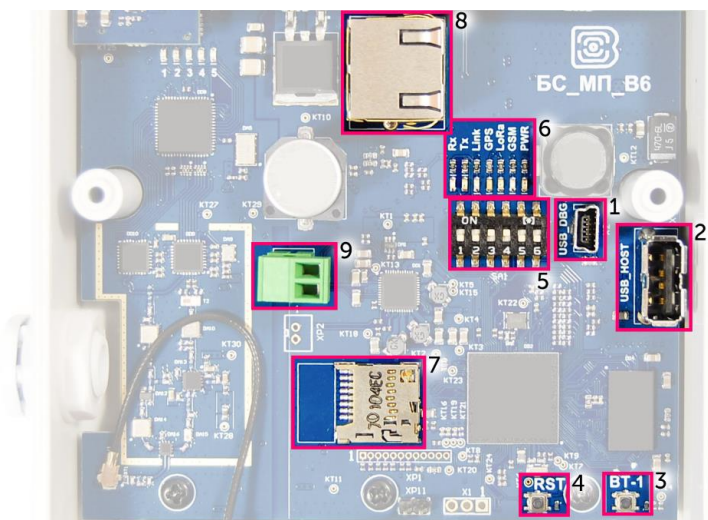
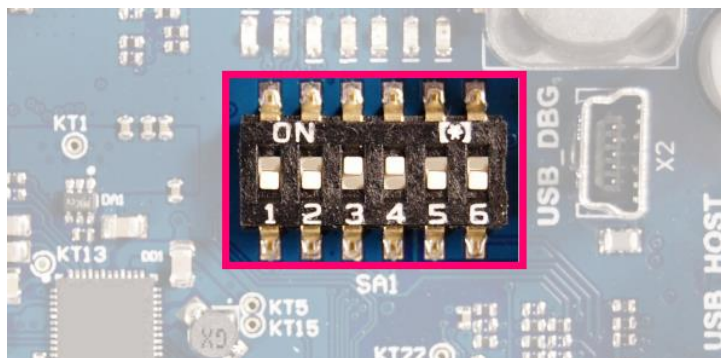

Fig. 3.1. Control and indication instruments, input and output interfaces.
Fig. 3.3. Operating position of DIP-switches
The gateway is connected to the network with 8-core network cable (twisted pair) through connector on the terminal board (fig. 3.1 (8)). Cable shall be crimped in compliance with T568A and T568B standards. Contacts shall be numerated 1-8 right-to-left.
There is an additional power connector on the board (fig. 3.1 (9)). It can be connected only when power contacts 4, 5 and 7, 8 in the network cable are disabled. Permissible power voltage is 12-48 V. Minimum power is 20 W.
The gateway has a mini-USB-port for connecting to a computer and working via the SSH protocol (Fig. 3.1 (1)), and a USB-host for connecting of external devices via a USB cable (Fig. 3.1 (2)). There is a slot on the board for a SD card (fig. 3.1 (7)).
There are two buttons on the gateway board. One button is spare for further developments (Fig. 3.1 (3)). Push the other button (Fig. 3.1 (4)) for the gateway instantaneous rebooting.
In addition, there are DIP switches (Fig. 3.1 (5)) on the board used to select the download option of the firmware image: from internal memory, from the SD card or via mini-USB from the computer. The switches are used only in service conditions. In operating mode, only switches 3 and 4 shall be enabled, see fig. 3.3.
There are several LEDs (fig. 3.1 (6)) on the terminal board, which signals are shown in the table below. They indicate operation of particular systems: power (on / off), visibility of GPS satellites, GSM modem (on / off), operation of the LoRa signal processing program (Packet forwarder on/off), Ethernet activity, the data exchange via mini USB port.
In case of a serial port, connect the gateway to a personal computer with a mini-USB connector by a cable. On the board, the required port is designated as USB_DBG (Fig. 3.1 (1)). Next, connect to a virtual COM port by installing the driver for MCP2200. **"Ports (COM and LPT)"** menu appears at the device manager.